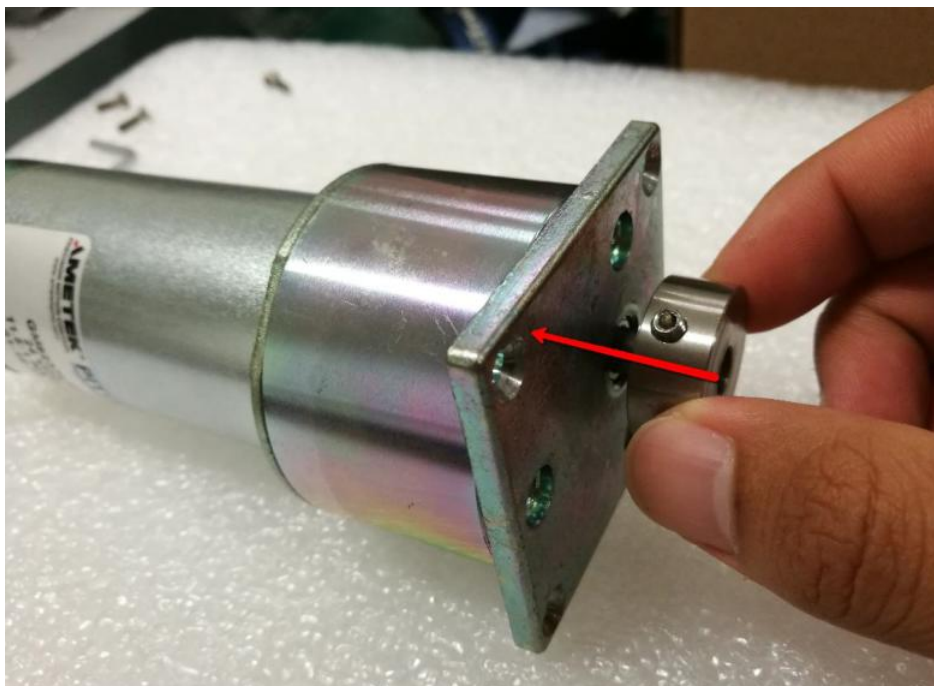

Figure 7 Belt Pulley Assembly
1. Assemble Belt pulley to Conveyor motor as shown in Figure 7.